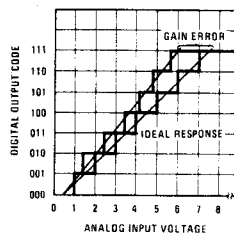

FIGURE 11. Full Scale (Gain Error)
**Full Scale Error (or Gain Error):** Full Scale Error is a measure of the difference between the output of an ideal A/D converter and the actual A/D for an input voltage equal to full scale. As shown in *Figure 11*, the Full Scale Error effect is to rotate the transfer characteristic angularly about the origin. Any voltage more positive than the Full Scale transition gives an output code of 111. In practice, therefore, the voltage at which the transition from 111 to 110 occurs is ascertained. The input voltage's departure from the ideal value is defined as Full Scale Error and is expressed as a percentage of FS. In the example of *Figure 11*, Full Scale Error is 1 1/2 LSB's, or 0.214% of FS.